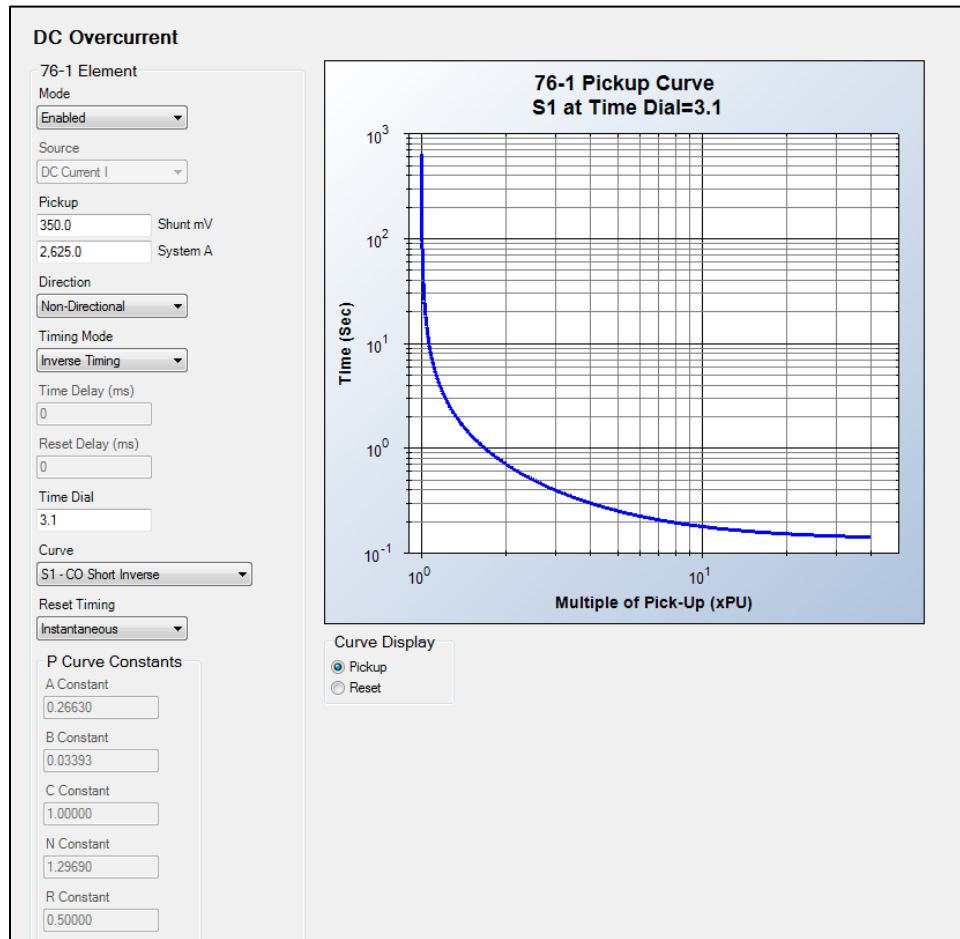

Figure 8-3. DC Overcurrent Settings Screen
Inverse overcurrent element operational settings are configured on the DC Overcurrent (76) settings screen (Figure 8-3) in BESTCOMSPPlus.